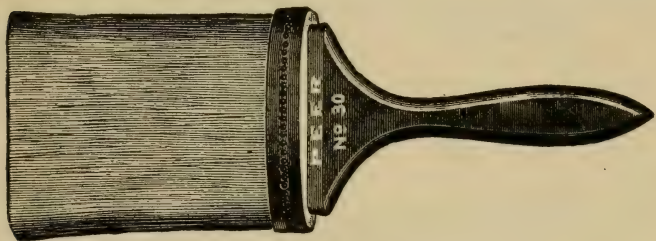

Fig. 3—Stucco Wall Paint Brush.
vents the losing of hair. See Fig. 3 for the shape of as "stucco wall" brushes. Some are also made by
f. *Painters' dusters*, either round or flat, and in many qualities of white or black bristles. The best quality is that known as the coach painter's duster and are made in white bristles only. The length and thickness of hair make the selling price higher and lower running from $3\frac{1}{2}$ to 5 inches long. See Fig. 6 for the round. The flat is shaped like Fig. 3 only more loosely put together.